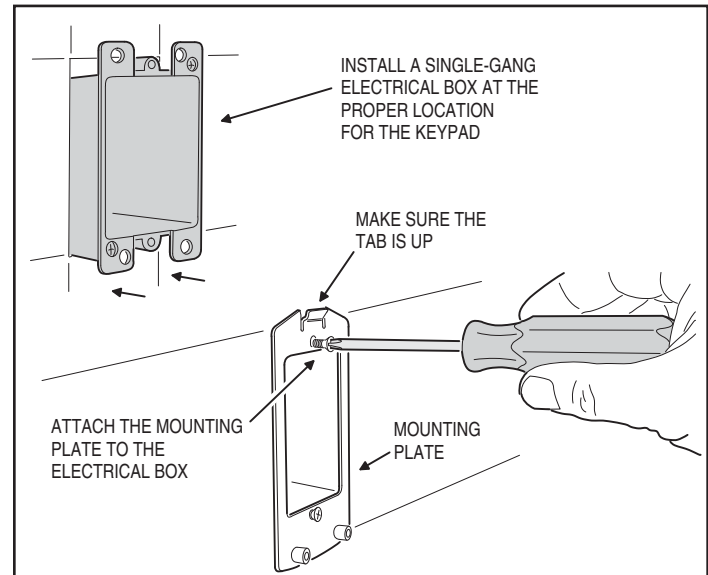

Figure 5. Installing the Mounting Plate
- ❑ Screw the mounting plate onto the electrical box (see Figure 5).